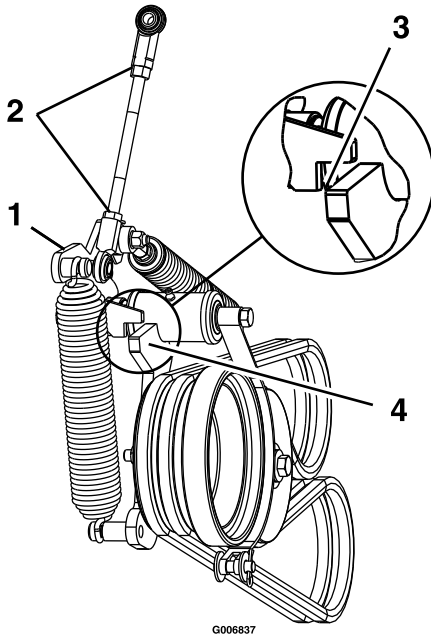

Figure 52
- Loosen the jam nuts and adjust the linkage until the top of the idler arm is aligned with the bottom of the notch on the tension arm as shown in Figure 52.